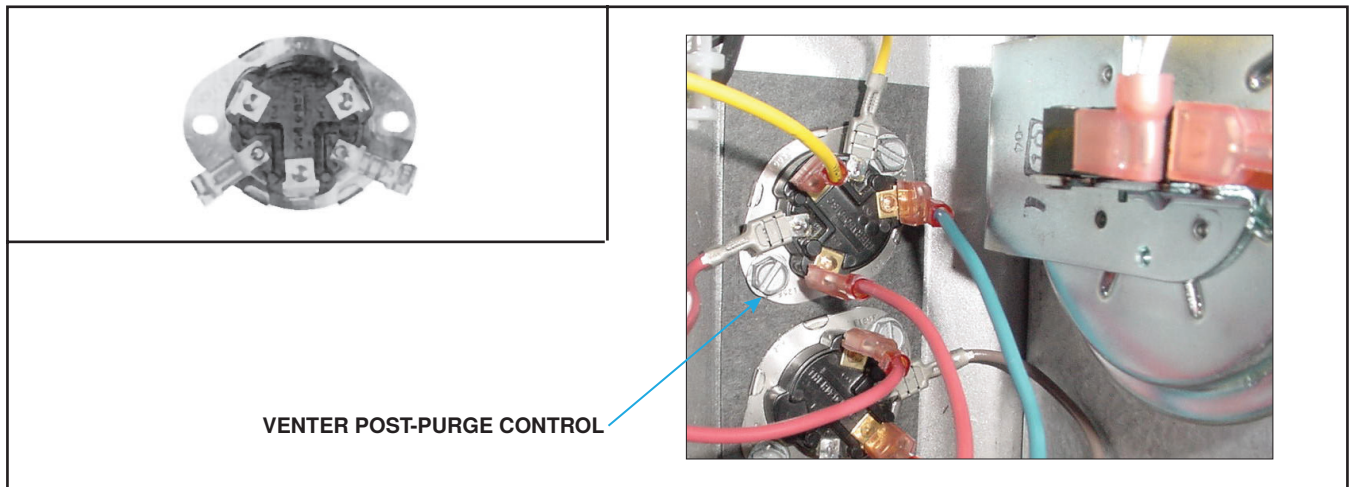

Figure 22. Obsolete Venter Post-Purge Control
2. Remove control access panel, open electrical box cover (if provided), and locate existing venter post-purge control (see **Figure 22**).